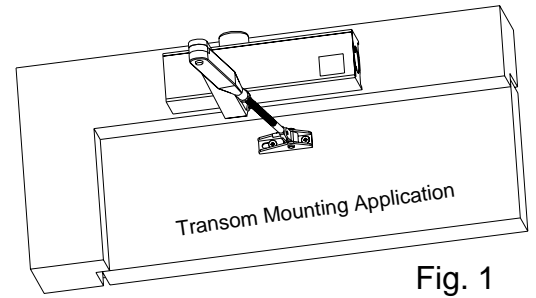

Fig. 1
2. Use Fig.1 easi-fit template and select correct hand of door. Stick template to top corner of door and frame, ensuring closer is mounted on frame and shoe is mounted on door. **(See Figs. 1 & 2)**